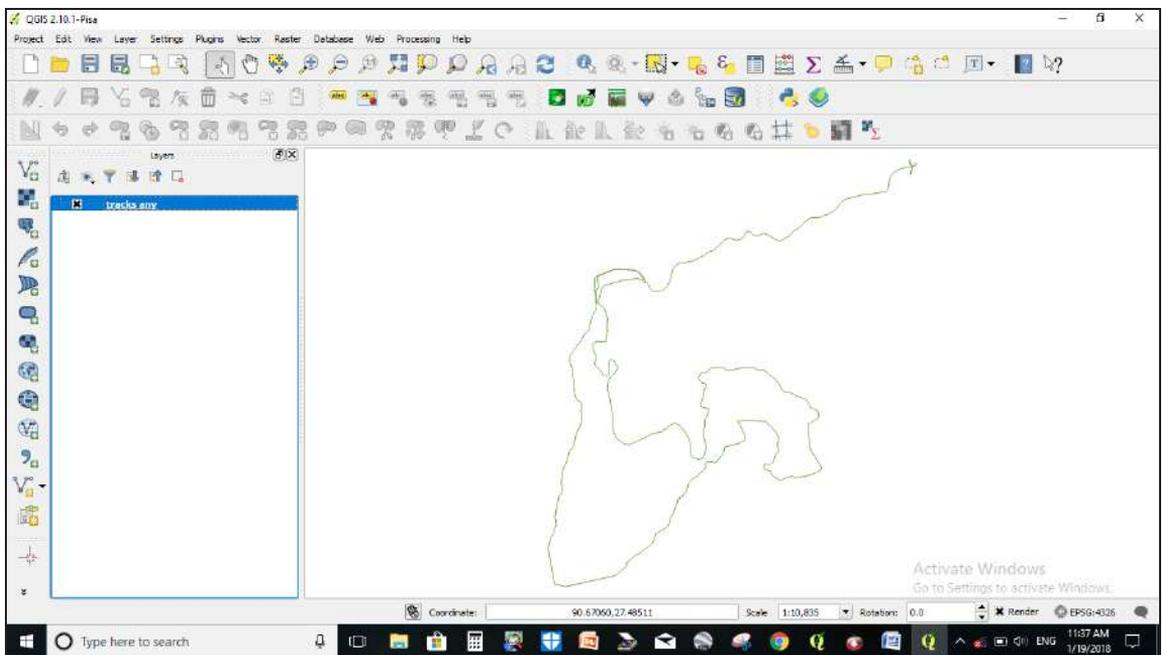

Figure 4c
d. The boundary will be displayed in the main screen. You will see the layer file as track any in the layer menu (figure 4c).